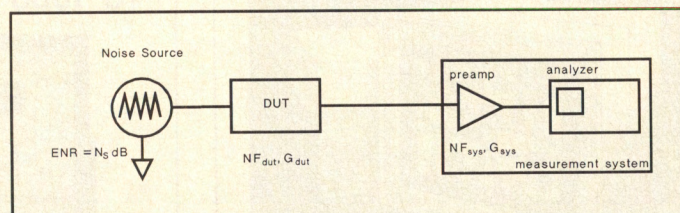

Figure 1. Noise figure test setup.
Using the DUT in the measurement system shown in Figure 1, the system has a certain noise figure and gain attributed to it. NF_{sys} , G_{sys} , and the noise source have a particular excess noise ratio (ENR) of N_s dB and the system bandwidth (B) is constant along with the temperature (T).